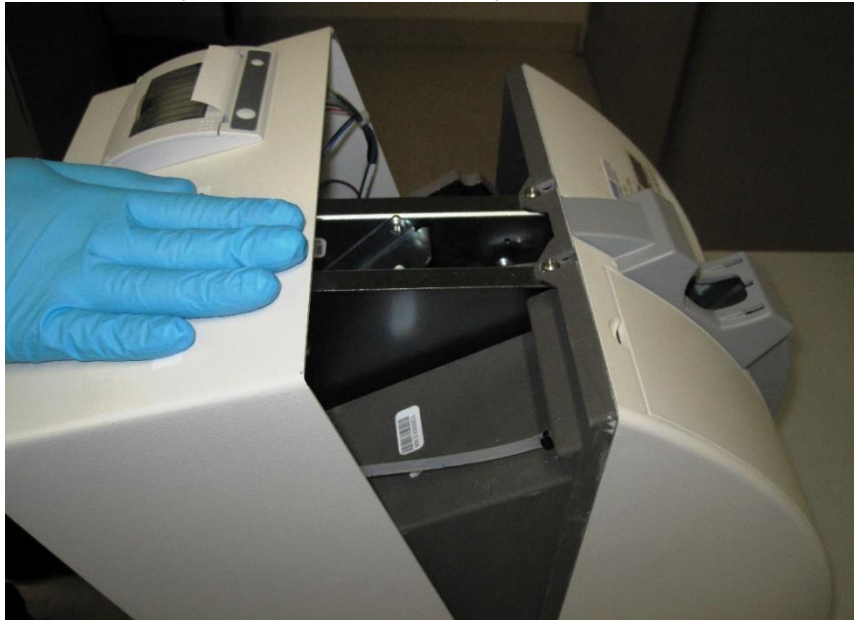

Figure 22
23. Once these screws are removed, slowly split the back portion from the front as depicted below in Figure 22 but do NOT fully remove the enclosure yet.